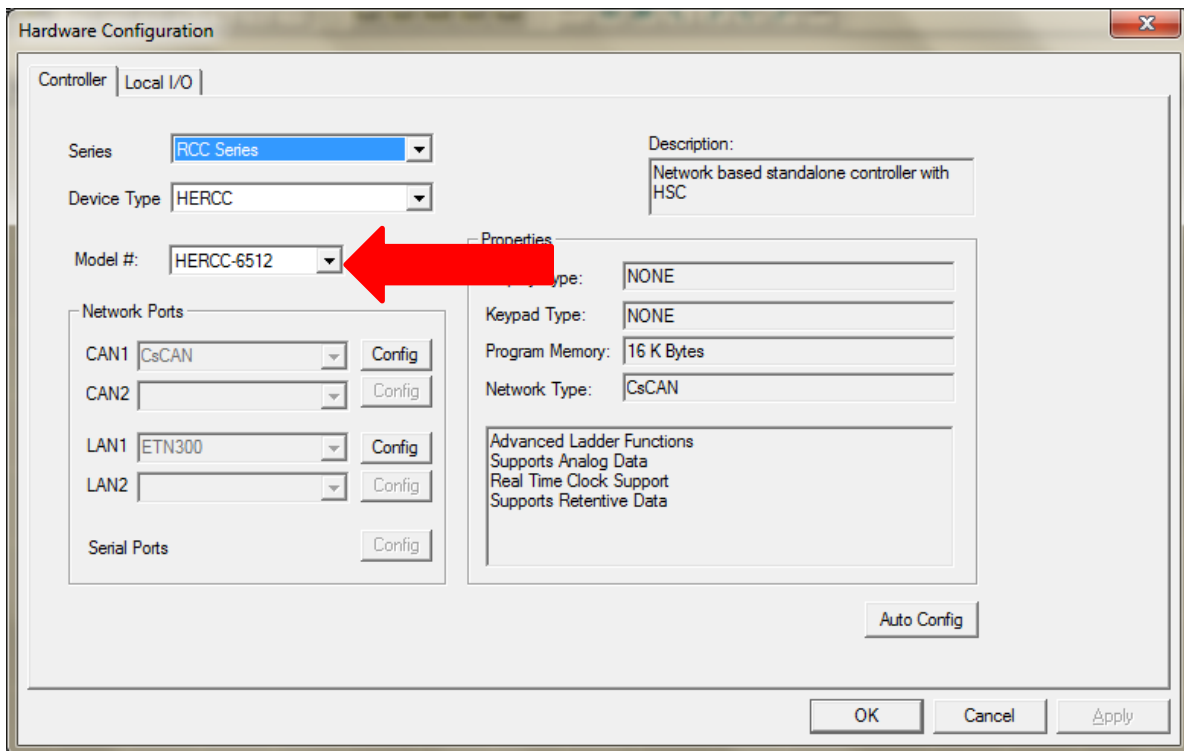

Figure 11.1 - Hardware Configuration Dialog
1. On the main Cscape screen, select the **Controller** menu and its **Hardware Configuration** sub-menu to open the I/O Configuration dialog (Figure 11.1).